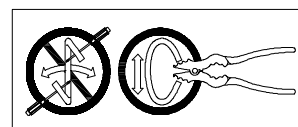

Fig.3
## CONNECTING THE WIRES (Fig.3)
14. Connect the electrical wire as shown in figure 3, making sure that all wire connectors are secured. If your outlet has a ground wire (green or bare copper), connect the fixtures ground wire to it. If the junction box has no ground wire, attach the bare copper fixture wire to the green ground screw (Screw: #8-32\*3/8"L) on the crossbar. Tuck the wire connections neatly into the ceiling junction box.